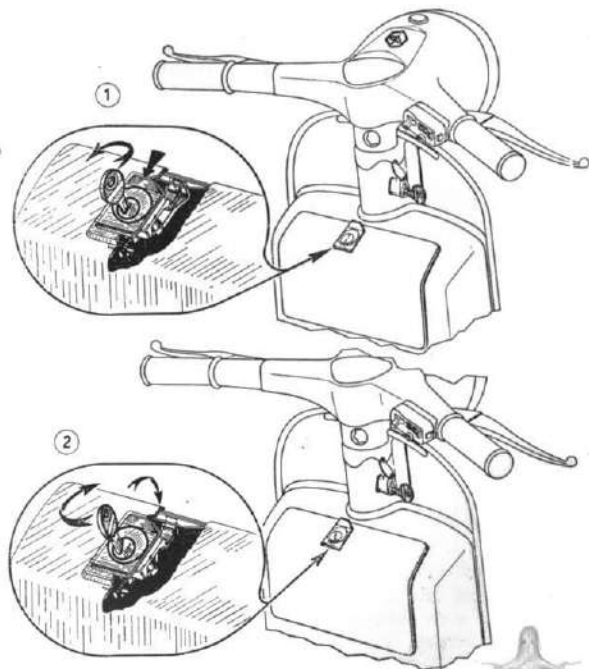

Fig. 4 - Front tool box lock
2. Front tool box lock	<p>To open the flap door of the front box insert the key in the lock and turn it fully anticlockwise, then slide down the external plaque of the lock (fig. 4). In order to close it, close the flap door until the lock clicks against the tool box; then turn the key clockwise and withdraw.</p>